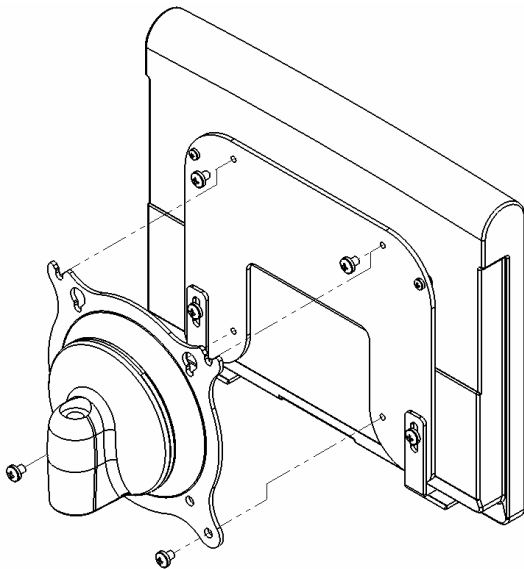

Fig. 3
2. **Attaching screen to Cetrus mount:** Screw M4 x 5mm Phillips head screws part way into the top two threaded holes. The screws will fit into the top slots on the centris mount. The top screws can then be tightened and the bottom screws inserted and secured as well (Fig. 3).